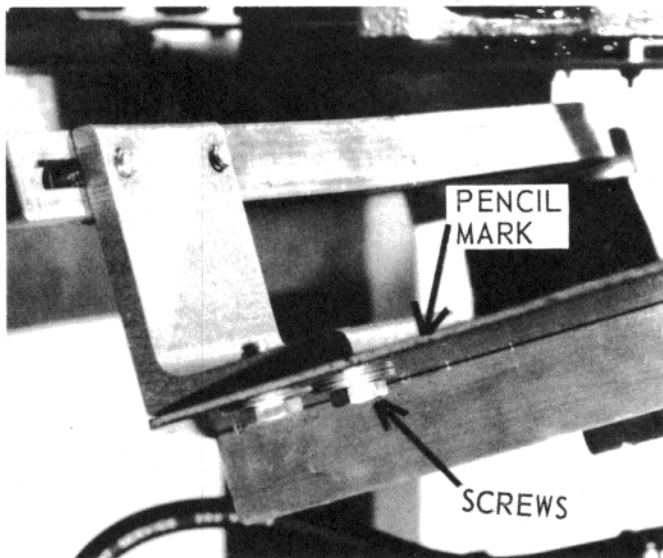

Figure 23 — Target Nest Bracket
- 7.4 Mark the position of the target nest bracket on the platform with a pencil so it can be reinstalled in its "adjusted" position for throwing singles. (see Figure 23).
- 7.5 Remove the target nest bracket by removing the screws that fasten it to the platform (see Figure 23).